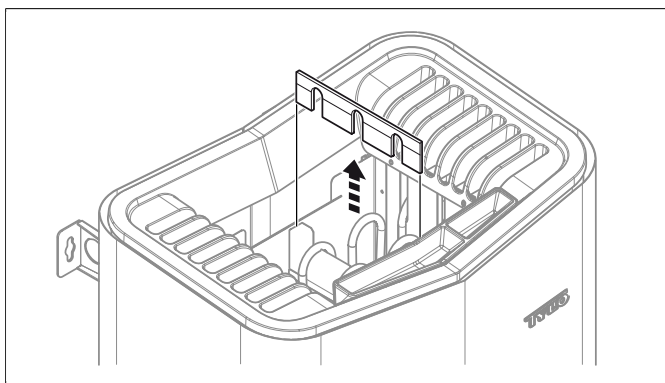
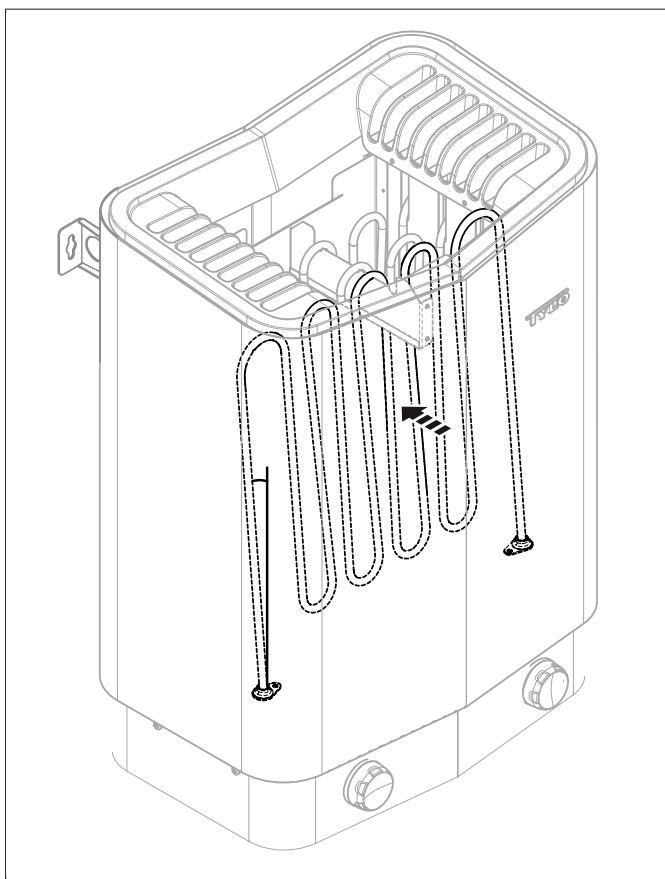

Figure 6: Remove the panel holding the tubular elements in place
Figure 7: Angle the tubular elements
1. Remove all the stones from the compartment. To make it easier to remove the stones, pull off the panel holding the tubular elements in place (see **Figure 6**, Page 4). This will make it easier to angle the tubular elements and remove the stones see **Figure 7**, Page 4.